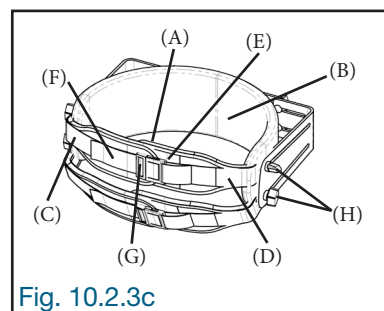

Fig. 10.2.3c
The hip pad belt (A) should be adjusted and tightened to the user's body to hold them in place. First, fold the half-belt (C) over the other half-belt with the hook-and-loop fastener (D) to cover at least half of the hook-and-loop fastener (E) of the half-belt (C). Second, adjust the length of the strap (F) by sliding it over the buckle (G) until the required length, and securely fasten the buckle (G). If necessary, slightly loosen the locking knobs (H) on each side of the hip pad block (B) to enlarge or tighten the belt (A) on the user's hips, and firmly tighten the locking knobs (H) (Fig. 10.2.3c).